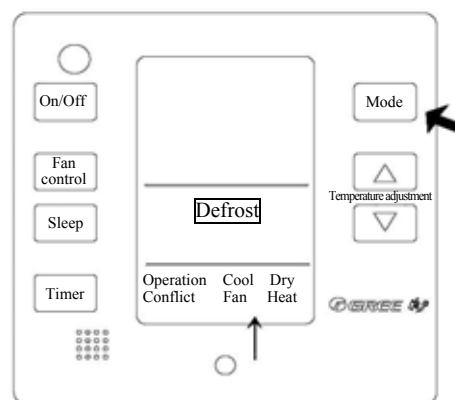

Fig 5
5) Operational mode setting (Fig.5)